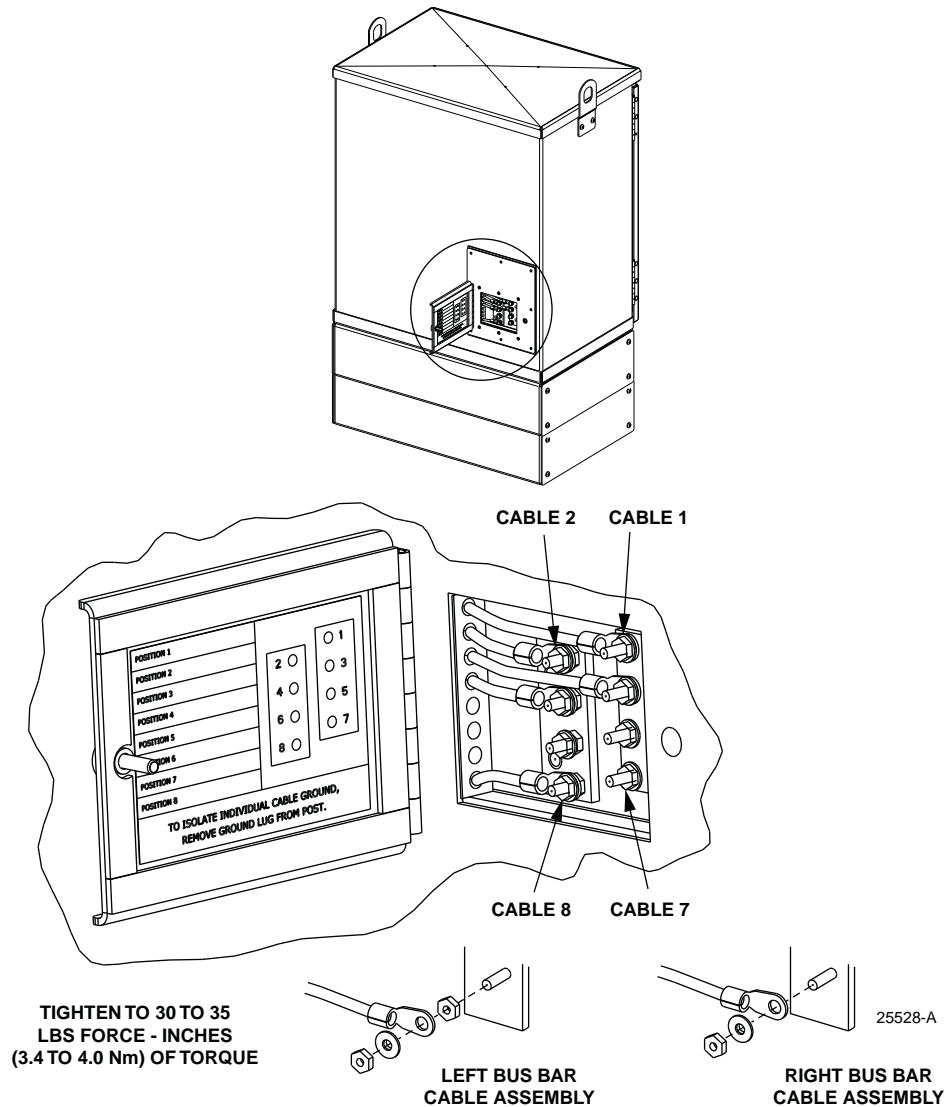

Figure 42. Grounding Block Access Cover
1. Locate the small hinged access cover at the rear side of the cabinet as shown in Figure 42.